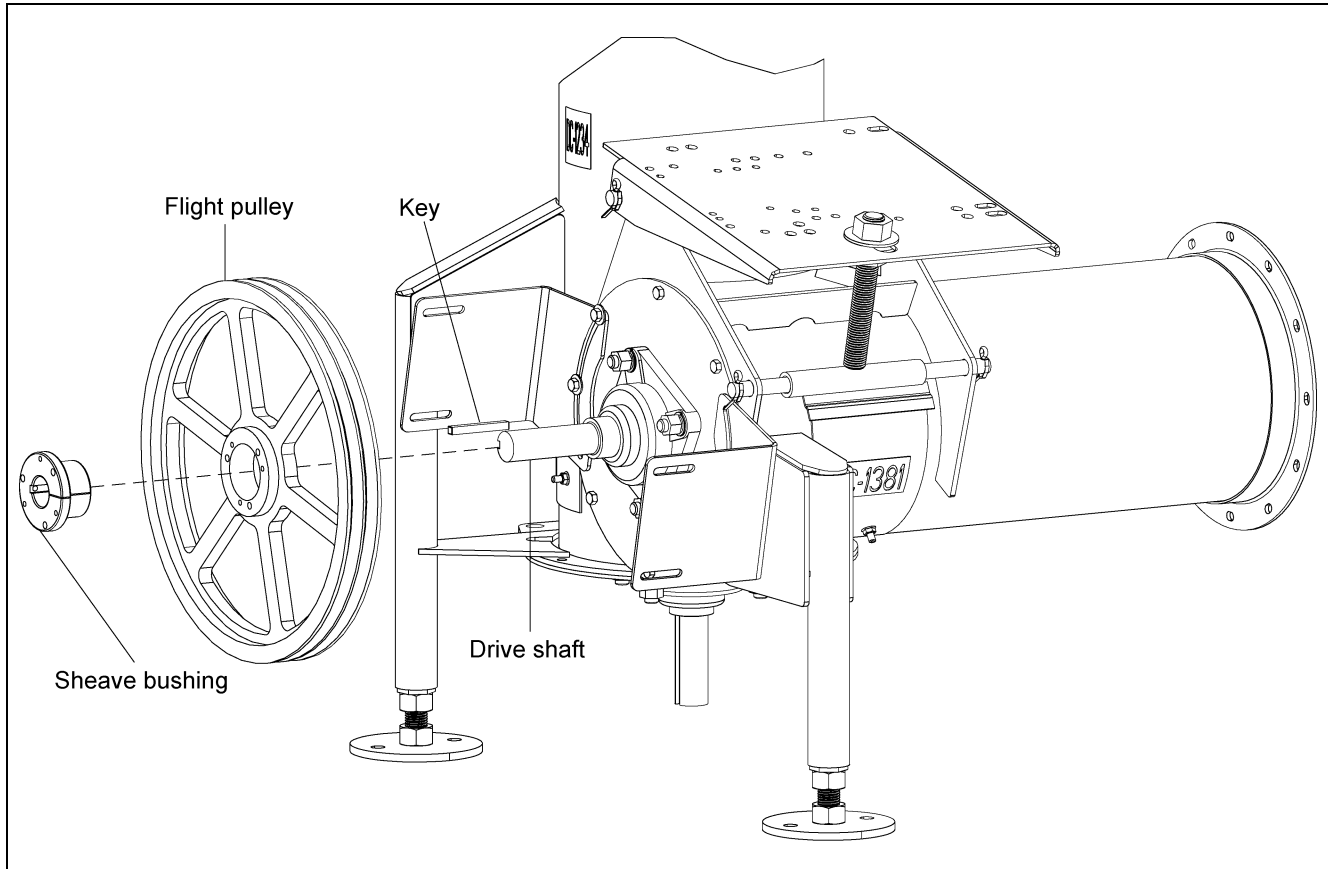

Figure 3N
- C. Once the *pulley* is appropriately positioned, tighten the set screw with a hex head wrench to secure it to the *drive shaft*. (See Figure 3N below and Figure 3O on Page 23.)